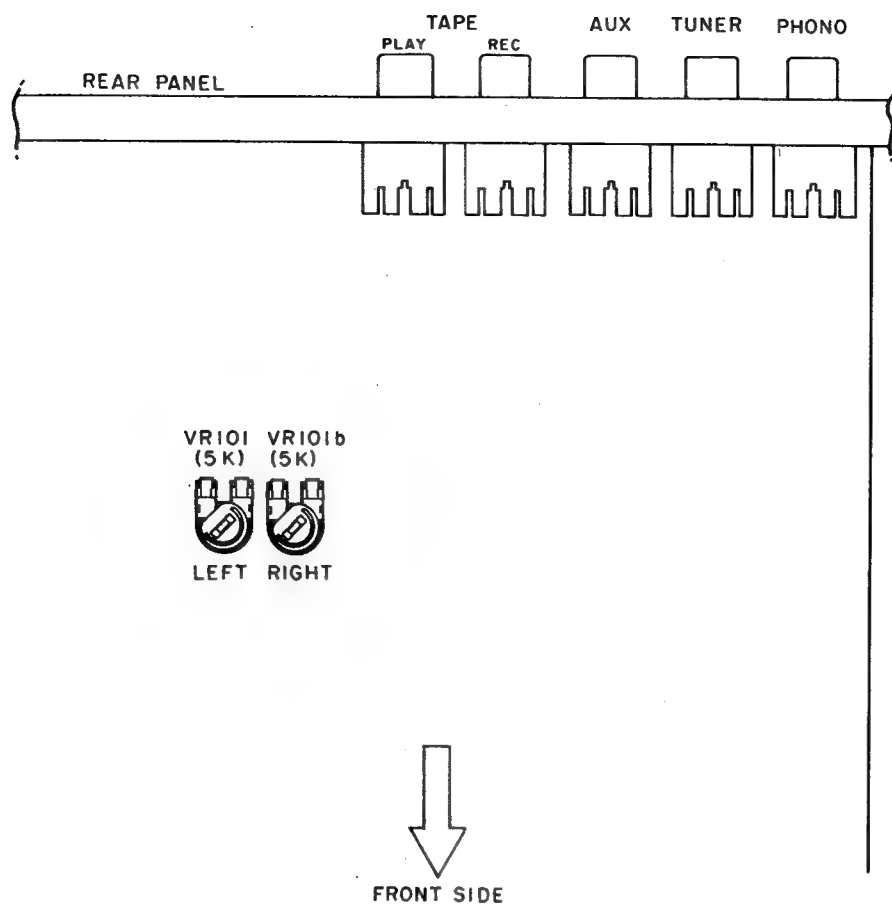

Fig. 9 Main P.C Board (AM-U11)
1) Model AM-U11 (Refer to Figs. 9, 11)